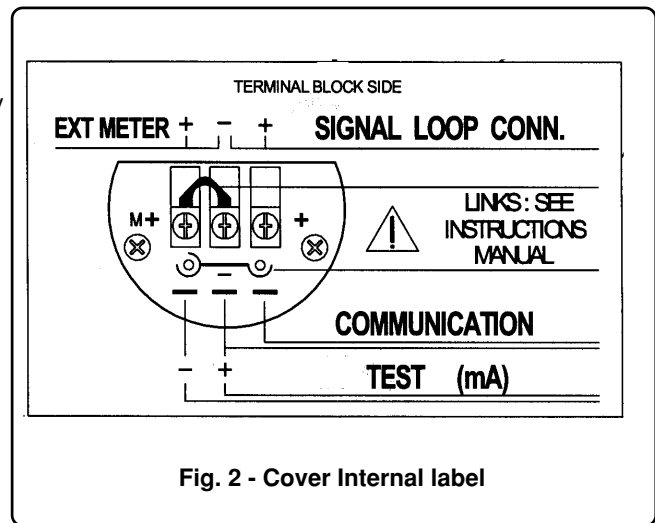

Fig. 2 - Cover Internal label
- 2) Remove the cover on the terminal block side; inside of which is affixed the label shown in Fig. 2.